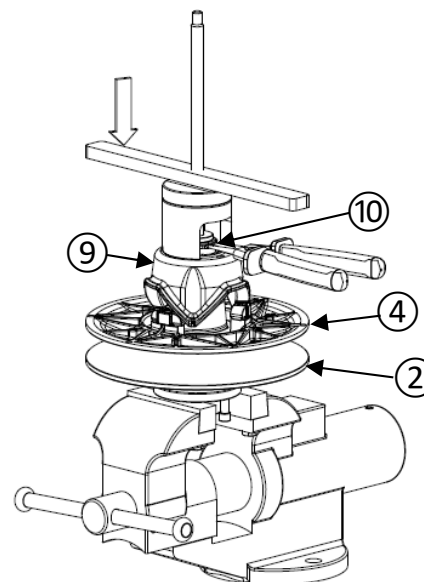

Figure 33
- Press down the cam ⑨ onto the shaft assembly ① using the disassembly tool. Position the key ⑧ into the shaft assembly ① groove (figure 33 and 34).
- Put the retaining ring ⑩ on the cam ⑨.
- Make sure that the fixed sheave ② is blocked in rotation, turn the cam ⑨ counter clockwise or clockwise to position the cam shoes ⑤ on the proper side of the cam ⑨ sliding surface as it was before disassembly.
- Screw the disassembly tool bar until the cam ⑨ is low enough to install the external retaining ring ⑩.